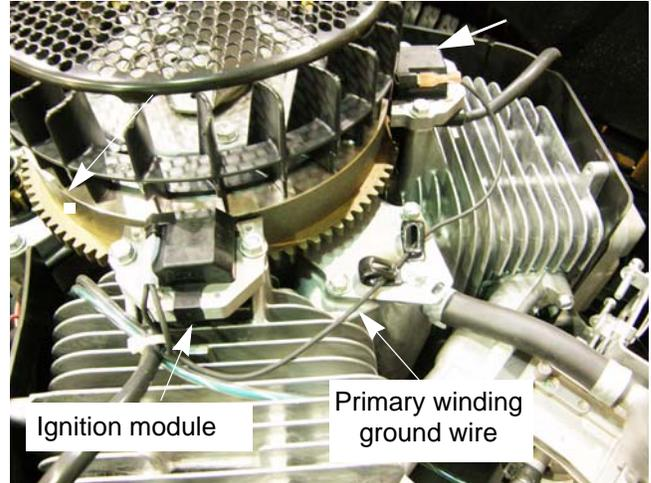

Figure 7.22
1. The ignition sparks are generated by an **ignition module**. The ignition module will work as long as the primary windings are not grounded. With the key switch in any position other than off, there is no connection between the M (Module) terminal and the G (Ground) terminal. See Figure 7.22.